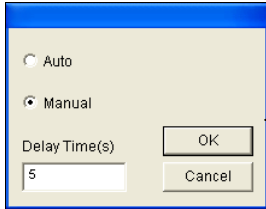

Figure 3-29
- **Live disable alarm:** Choose whether to invoke the warning message when a scene change is detected. Click the [...] button beside to display Figure 3-29.